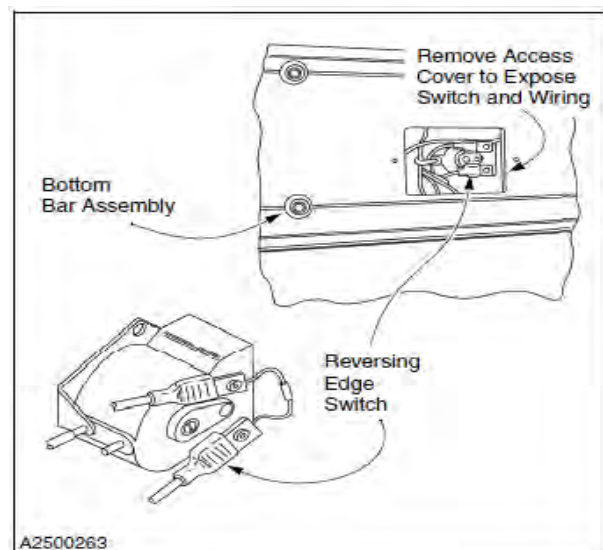

Figure 46
- The reversing edge switch is located under the Ry-Wi cover inside the bottom bar assembly. To inspect or adjust the switch, remove the access cover from the face of the bottom bar assembly. (See Figure 46.)